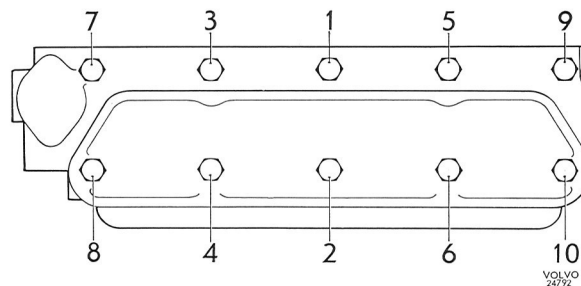
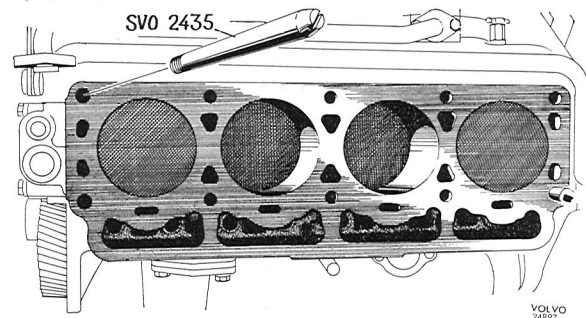

Fig. 2-28. Tightening sequence for cylinder head bolts
Fig. 2-29. Guide pins for cylinder head installation
Check that all parts are clean and lubricate sliding surfaces with oil before assembling. Always use new gaskets, cotter pins and lock washers. No adhesive should be used on the gaskets. The seals on the ends of both the oil pump delivery pipe and the water pump pipes are rubber rings, "O-rings". These rings, which seal radially, are made of special rubber with very close tolerances. Only genuine Volvo parts should be used. Installation is facilitated by coating the rings with soap solution. The rings are installed on the pipes and then pressed into their correct positions before the attaching bolts are tightened. The oil pump flange should lie flush against the cylinder block before tightening. The timing gear cover and rear seal flange must be accurately centered when installed. See under the headings "Replacing timing gear cover" and "Installing rear seal flange". The big-end bearing bolts and nuts should be replaced with new ones when reconditioning. The reinforcing bracket on the flywheel housing is installed according to point 9 under "Replacing sump gasket" (page 2:8). The cylinder head is installed with the help of guide pins 2435. The bolts must be tightened in a certain sequence as shown in Fig. 2-28 in order to avoid unnecessary stresses. Check that the oil hole (Fig.
9. Install the valves. Screw the guide pins 2435 into the block, one in the front right-hand hole and the other in the left-hand rear hole, see Fig. 2-29. Install a new cylinder head gasket with the "TOP" upwards (wide edge). Install new seals for the water pump and the cylinder head. Screw out the guide pins and install the bolts in these holes as well. For tightening sequence, see Fig. 2-28. Tightening should be in three stages: 1st stage 40 Nm (29 lb ft), 2nd stage 80 Nm (58 lb ft); 3rd stage: after running the engine, see point 11.
19. Screw the guide pins 2435 into the block, one in the front right-hand hole and the other in the left-hand rear hole, see Fig. 2-29. Install a new cylinder head gasket with the "TOP" upwards (wide edge). Install a new inlet duct gasket and new seal for the water pump. Install the cylinder head. Screw out the guide pins and install the bolts in these holes as well. For tightening sequences, see Fig. 2-28. Tightening should be in three stages: 1st stage 40 Nm (29 lb ft); 2nd stage 80 Nm (58 lb ft); 3rd stage: after running the engine, see point 34.